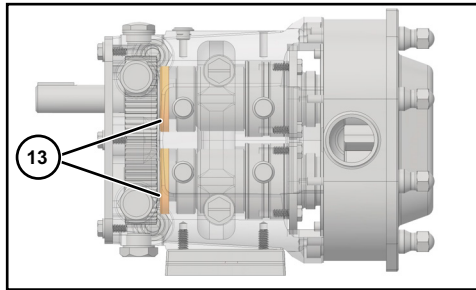

Figure 44 - Remove Rear Oil Seals
10. Press out and discard both rear oil seals in the gear case (Figure 44, item 13).